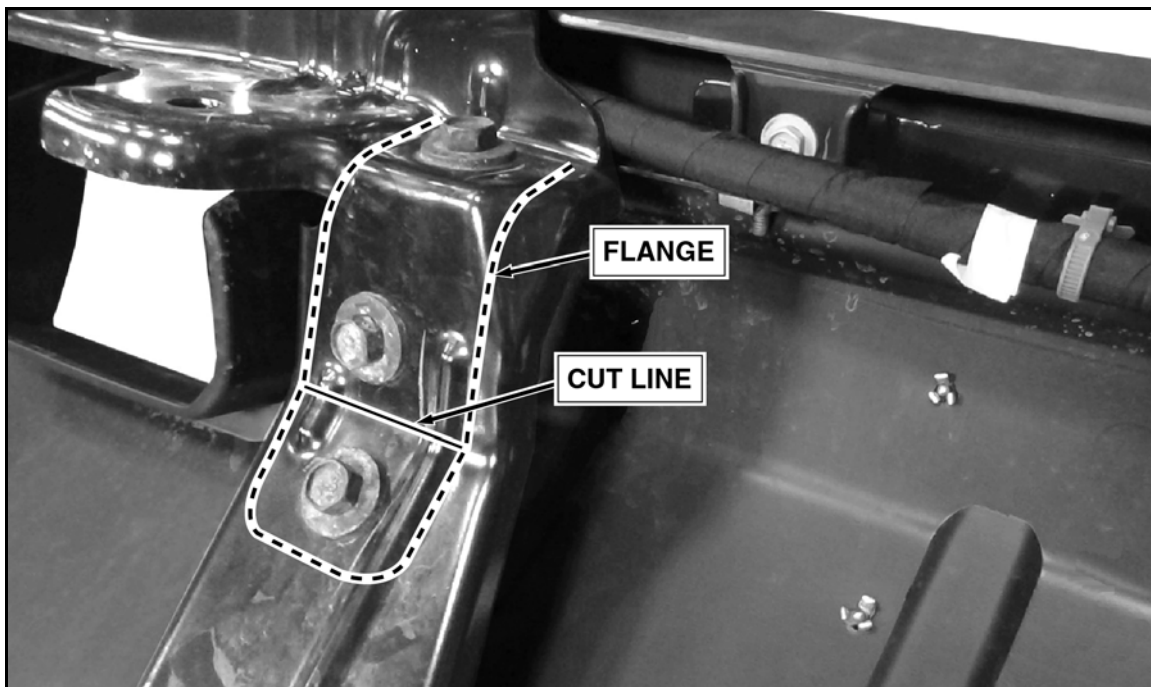

Figure 9
I. Depending on the height at which the VCM is set, the lower portion of both main bumper flanges (shown outlined above) may need to be cut. If cutting is required, cut the lower portion of each flange as shown above. (See Figure 9.)